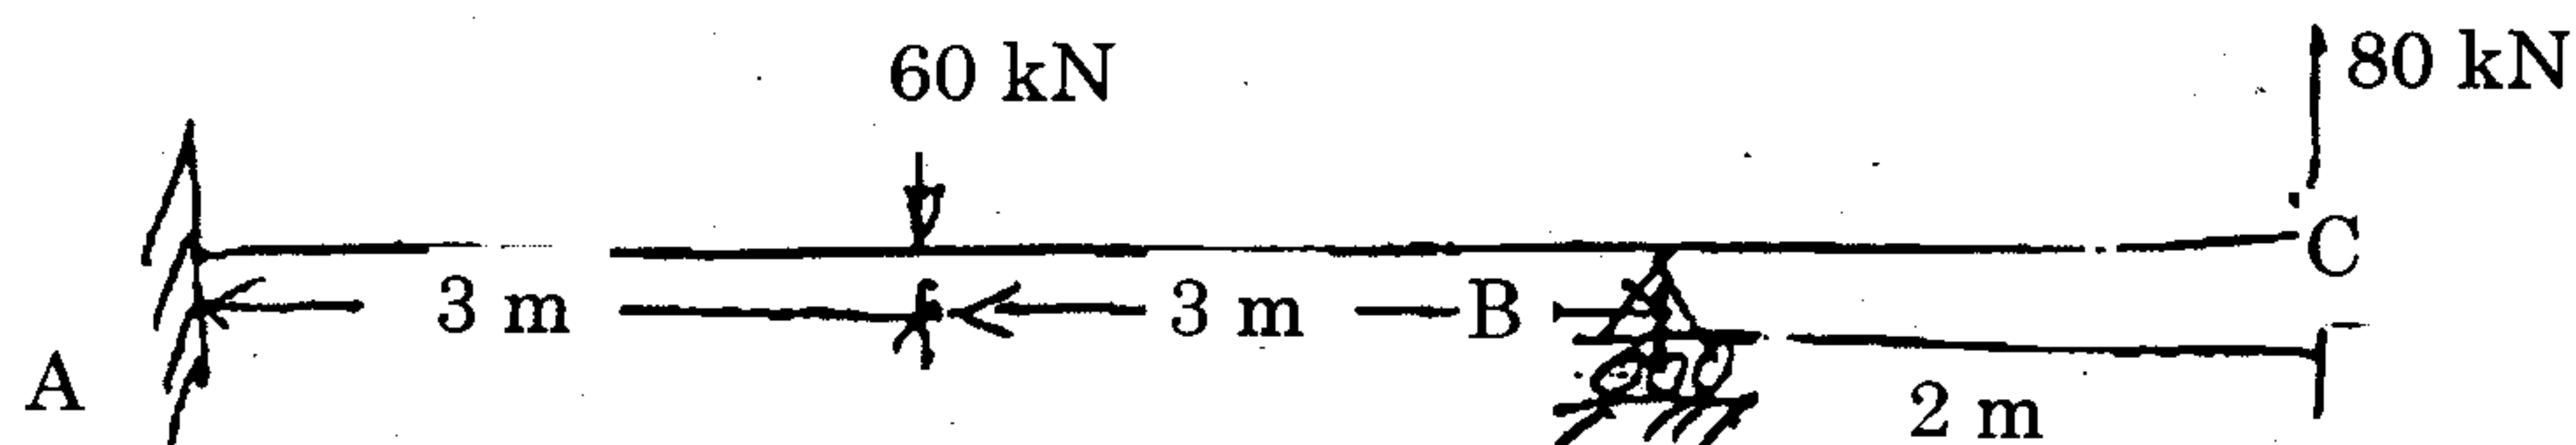

Fig. 14 (a)
14. (a) Analyse the beam loaded as shown in Fig. 14 (a) by the slope deflection method and draw the bending moment diagram and shear force diagram.  $EI$  is constant. (16)